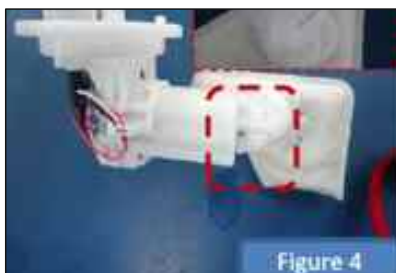

Figure 4
- 4.Press it until the gap between Casing & Filter is zero and make sure that the snap-fits are properly fitted as shown in Figure 4.